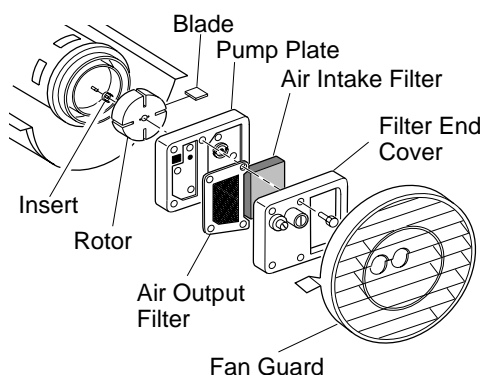

Figure 21 - Rotor Location 115,000 Btu/Hr Model Shown
3. Remove filter end cover and air filters (see Figure 21).